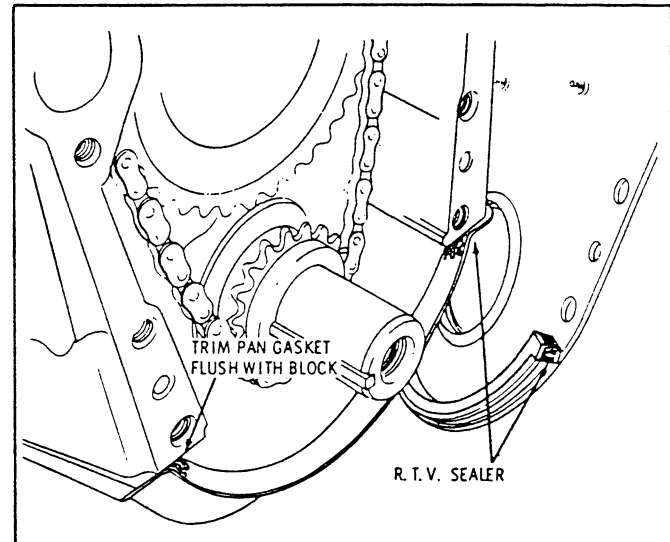

Fig. 43 Applying R.T.V. Sealer and Trimming Pan Gasket
6. Apply 1052915, 22521437, G.E. 1673 R.T.V. sealer or equivalent at junction of block, pan and frontcover (Fig. 43).